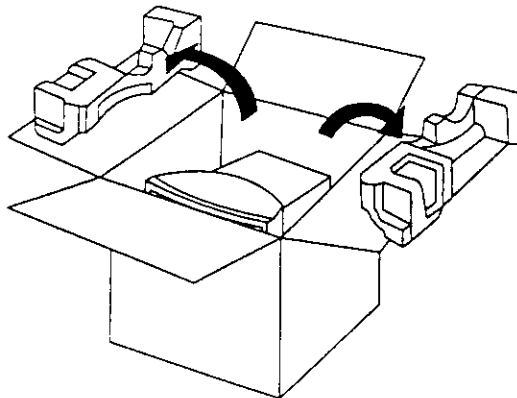

Figure 1
2. Remove the monitor from its shipping carton (see figure 1). Save the carton and packaging materials in case you need to relocate the monitor.